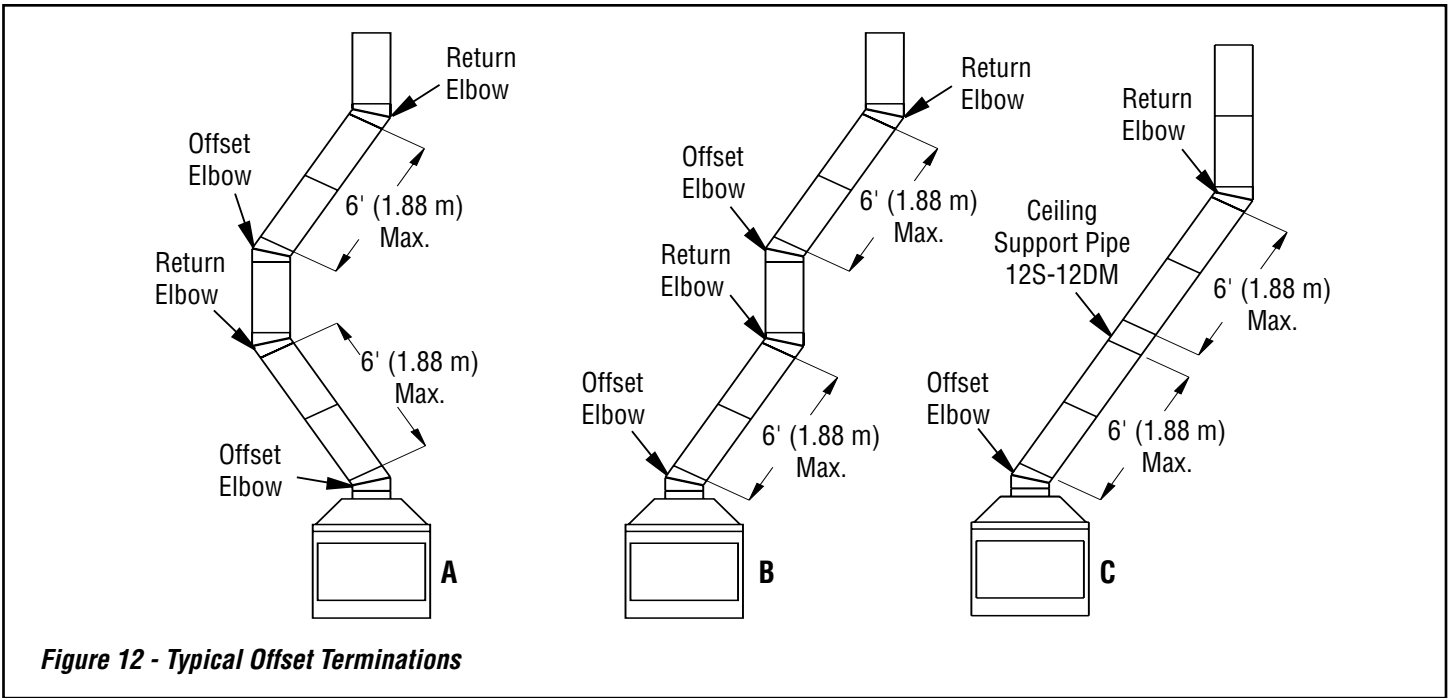

Figure 12 - Typical Offset Terminations
3. Maximum length of pipe between supports (return elbow or 12S-12DM) is 6' of angle run. Maximum of two 6' angle run sections per chimney system (*see Figure 12, Page 11*).